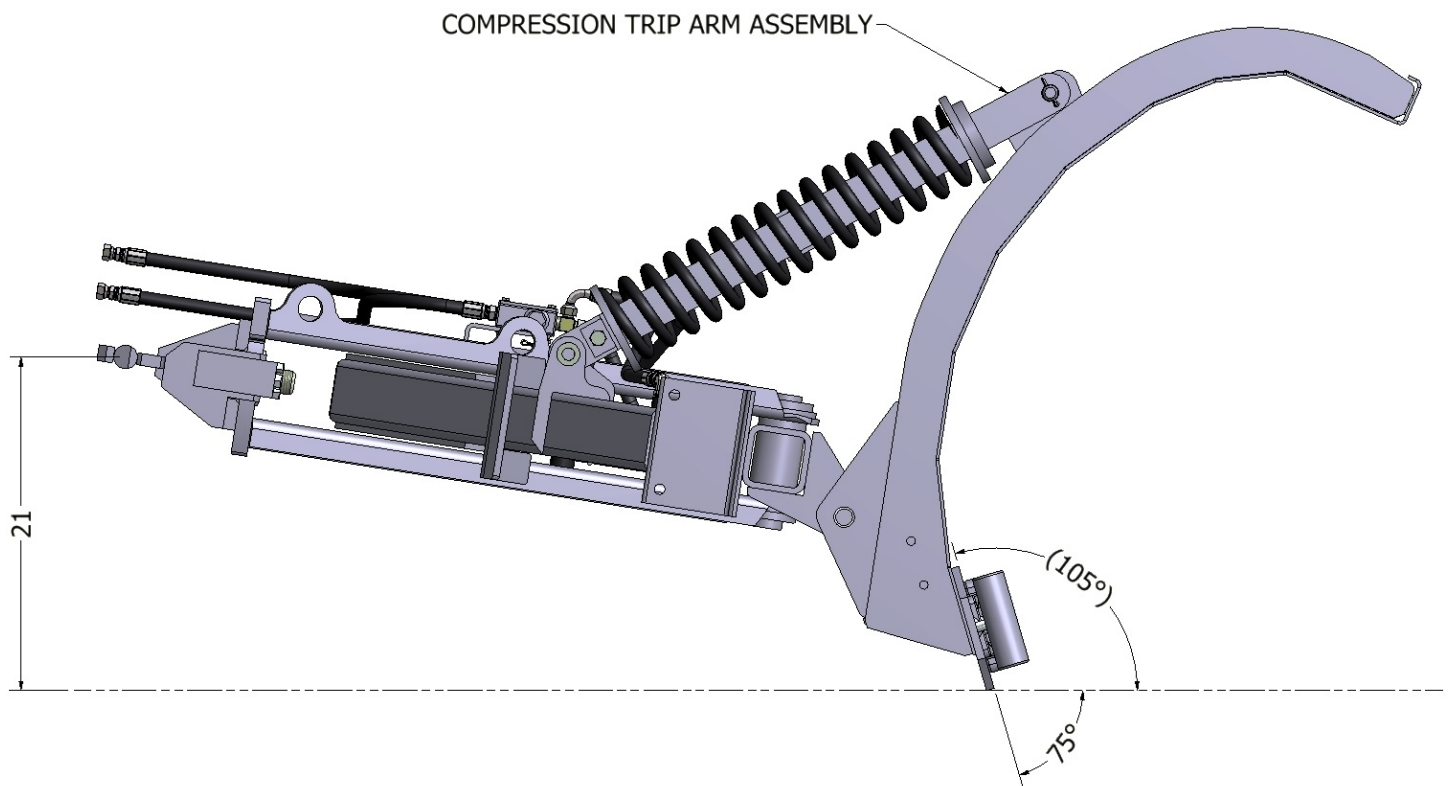

FIGURE 1: DRIVE HEIGHT SETTINGS
During the initial installation of the plow to the vehicle, some adjustments will be necessary to insure proper operation of the plow and trip mechanisms. It is Viking-Cives recommendation that the plow is set to run at an approach angle from the road surface of approximately 75 degrees, as shown in Figure 1. **NOTE: When plow is being raised, lowered or reversed - stand clear!**
1. Set plow unit on level surface with moldboard in the bulldoze position; adjust drive height to approximately 21" as shown in figure 1.